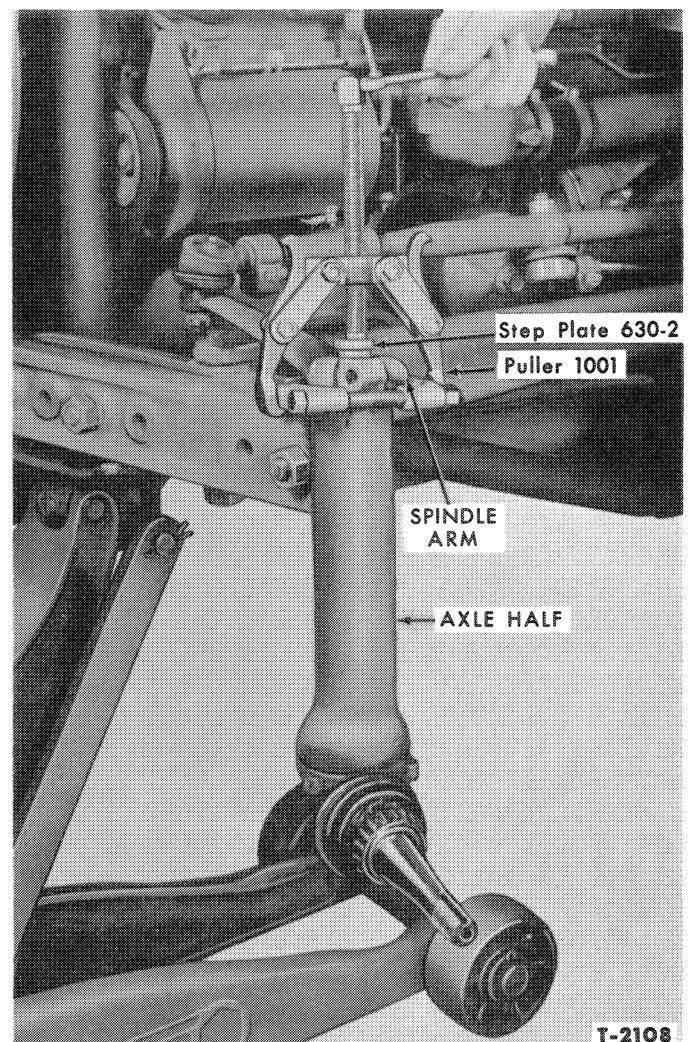

Figure 3—Removing Spindle Arm
3. Remove the spindle arm nut, lock washer, and bolt. Remove the spindle arm from the spindle assembly, Figure 3, with Puller 1001 and Step Plate 630-2.